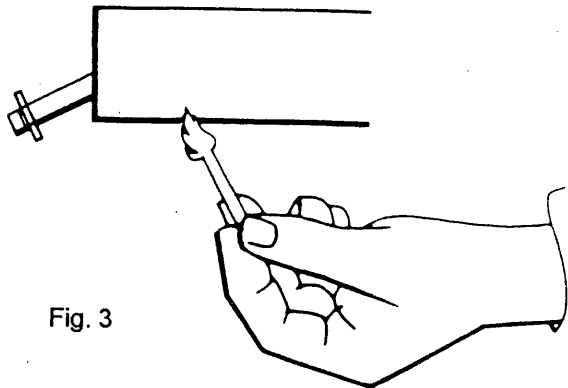

Fig. 3
- Strike match and place under coil visible through shroud. (Fig. 3)